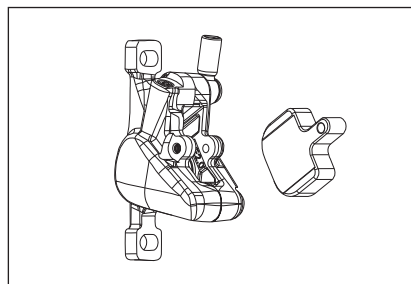

Fig 5
- Use a disc brake setting tool, bleed block or equivalent spacer to keep the pistons from moving . (Fig 5)